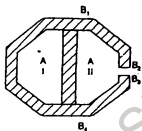

Figure 2
18. A shaft having a cross-section of thin regular octagon with a longitudinal slit and stiffened by a vertical member of same thickness is subjected to a torque of 2500 Nm. If mean length of a side of the octagon is 100 mm, uniform thickness is 20 mm. and the vertical member as shown in Figure 2. Divides the section in two equal halves find : (a) The torque shared by each half ; (b) Maximum shear stress in each half ; and (c) Angle of twist per unit length . Given $G = 80$ GPa.